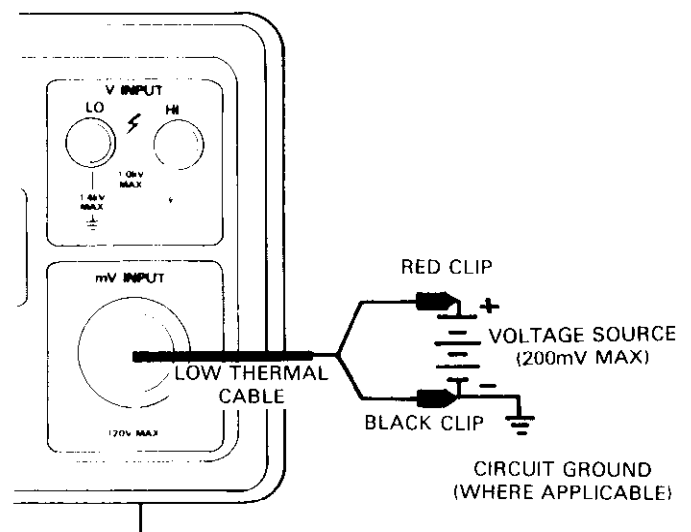

Figure 2-5. mV and nV Measurements
4. Connect the low-thermal cable to the mV input. Connect the alligator clips of the cable to the voltage source to be measured as shown in Figure 2-5.